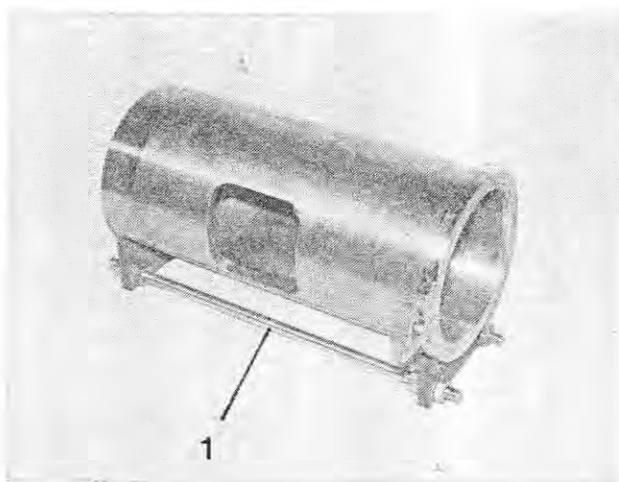

Fig. 184
10. When machines with a direct connection or a hopper are used, place the intermediate cylinder on the support (Figure 184/1).
The intermediate cylinder must only be placed on the support (Figure 184/1).